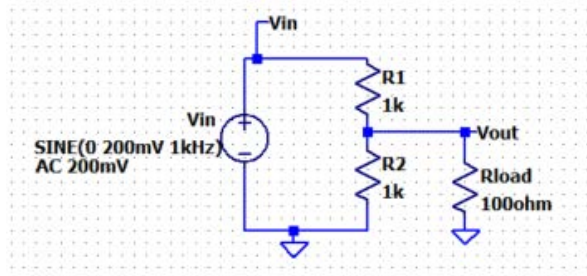

Figure B-2.
- Begin by creating the circuit pictured in Figure B-2 below in *LTspice*.